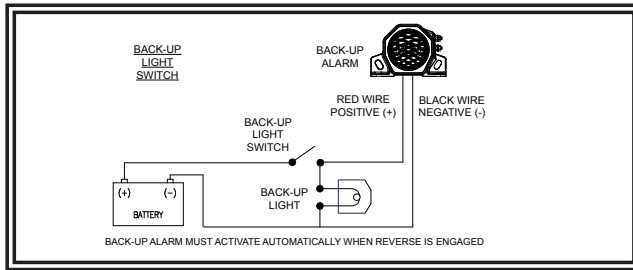
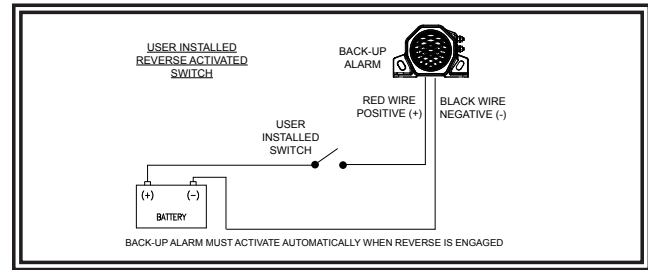

Figure 1
Figure 2
2. This unit requires a reliable power and ground connection for operation. Complete the wiring according to the wiring diagram below using 18 gauge wire (minimum). If the vehicle back-up light circuit is used, refer to Figure 1, or Figure 2 if a user installed switch is required, and observe correct polarity. **WARNING!!** Anytime the back-up alarm is in operation, continuity must be maintained between the positive voltage of the power source and the positive terminal of the back-up alarm as well as between the negative terminal of the back-up alarm and the common ground (the vehicle member to which all wire grounds are connected). During operation the voltage differential between the positive voltage of the power source and the positive terminal (+) of the back-up alarm shall not exceed 500mV. During operation the voltage differential between the common ground and the negative terminal (-) of the alarm shall not exceed 500mV. Route wire in a protected manner in accordance with vehicle manufacturer recommendations. **NOTE:** The back-up alarm will not operate when its power connections are reversed and is protected against reversed polarity up to 400V.